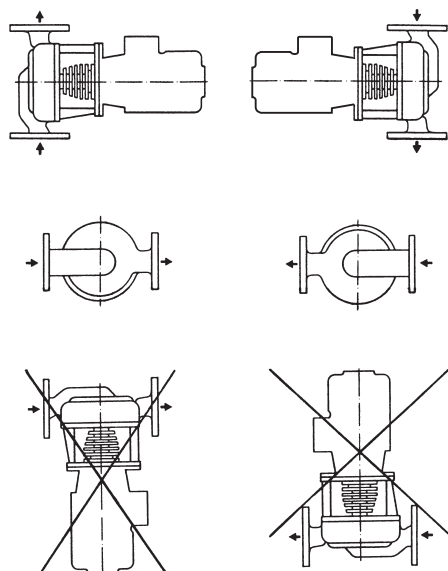

Fig. 7: Permitted installation positions
- All installation positions except for "motor facing down" are allowed (see Installation positions fig. 7).